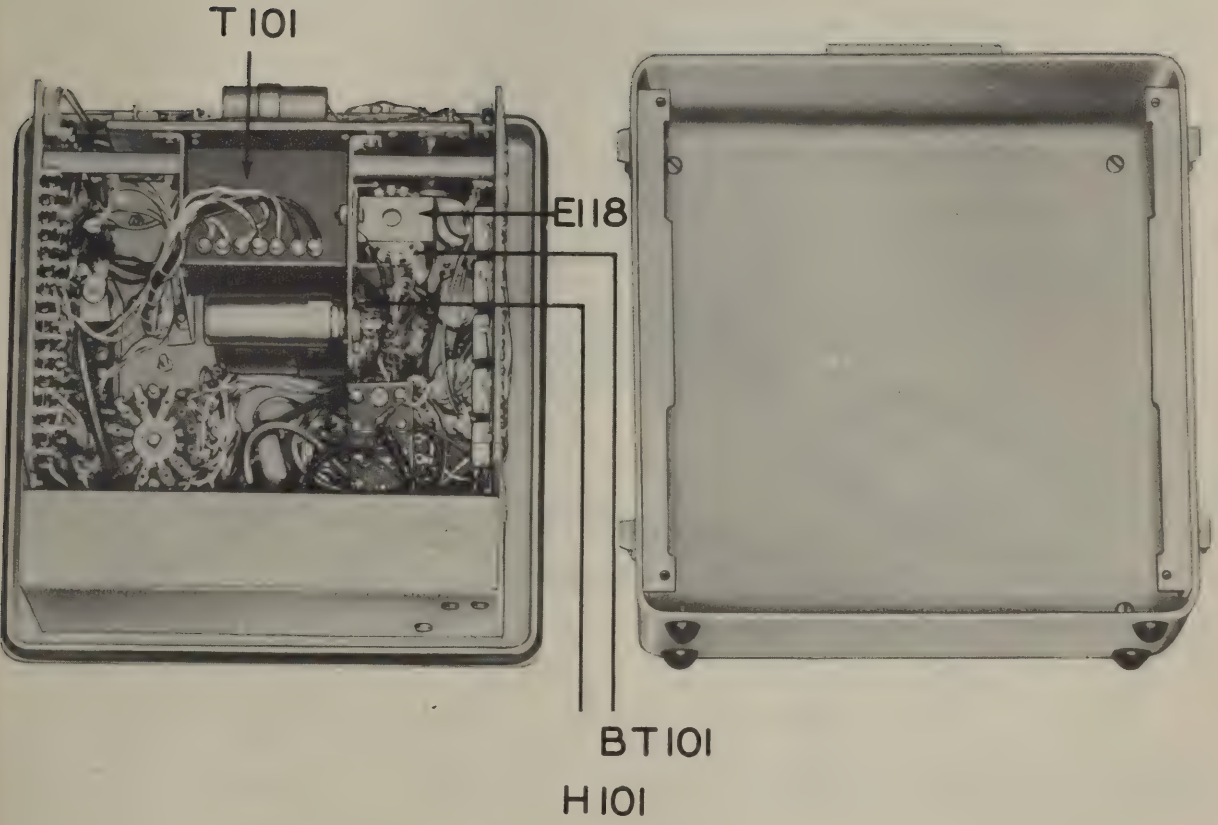

Figure 3-3. Location of Battery BT-101.
Before you use Multimeter ME-25B/U for resistance measurements, install one battery, JAN type BA-30, in the instrument. Figure 3-3 shows where the battery will be installed inside the case of the instrument. Use the following procedure:
b. Turn the front panel around so that you view it as in figure 3-3. Locate H-101 and E-118 in the instrument. On chassis H-101, there is a trough into which the battery will fit.